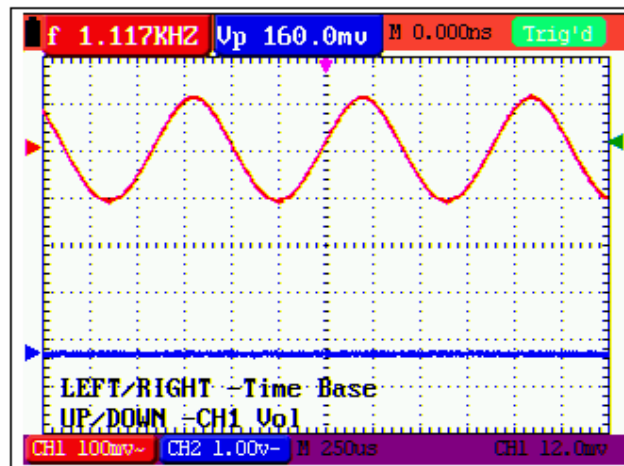

Figure 6: Voltage Unit Scale of Channel 1
1. Press the **OSC OPTION** key once; the following is displayed at the bottom left side of the screen, as shown in figure 6: